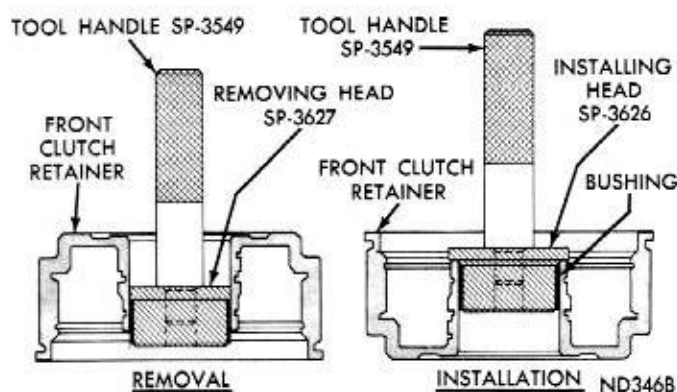

Fig. 56—Replacing Front Clutch Retainer Bushing (A-904)
(1) Lay clutch retainer (open end down) on a clean smooth surface and place removing head Tool SP-3627 in the bushing (Fig. 56). Install handle Tool SP-3549 in removing head.
(2) Drive bushing straight down and out of clutch retainer bore. Be careful not to cock tool in the bore.
(3) Lay clutch retainer (open end up) on a clean smooth surface. Slide a new bushing on installing head Tool SP-3626, and start them in clutch retainer bore (Fig. 56).
(4) Install handle Tool SP-3549 in installing head.